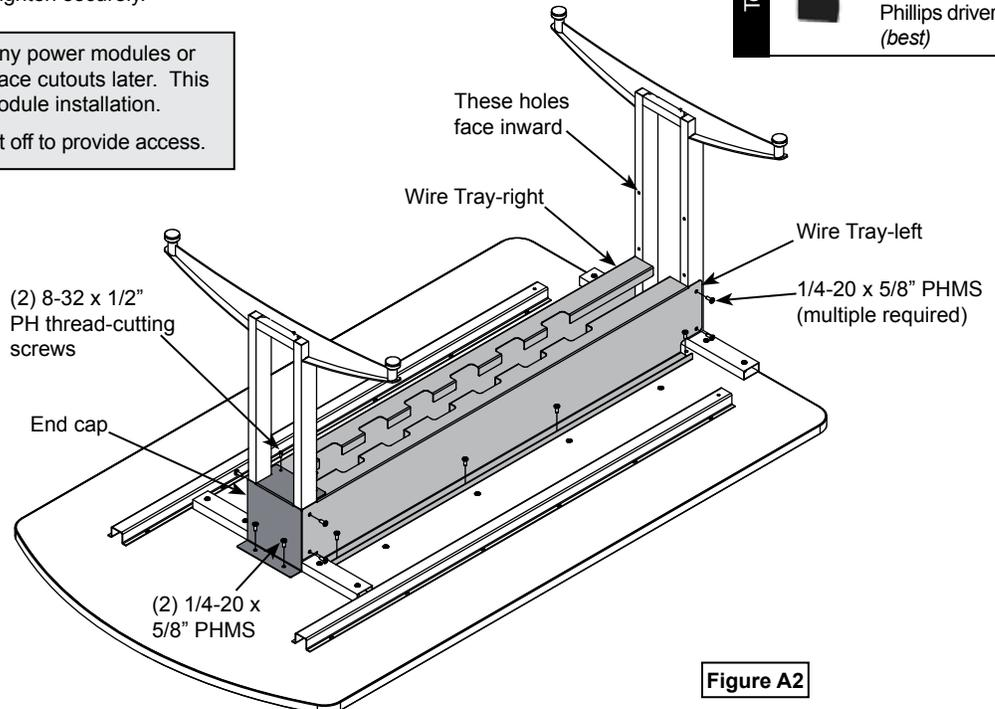
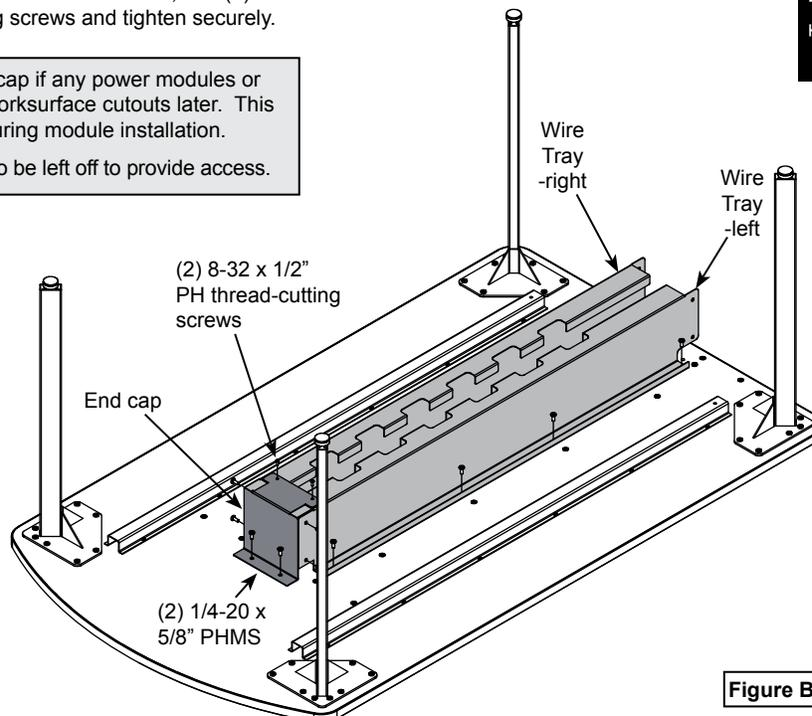

Figure A2
Figure B2
1. Attach the left and right wire tray to the worksurface as shown with 1/4-20 x 5/8" PHM screws. **Figure A2**.
2. Install the end cap with (2) 1/4-20 x 5/8" PHMS, and (2) 8-32 x 1/2" PH thread-cutting screws and tighten securely.
1. Attach the left and right wire tray to the worksurface as shown with 1/4-20 x 5/8" PHM screws. **Figure B2.**
3. If removed, install the end cap with (2) 1/4-20 x 5/8" PHMS, and (2) 8-32 x 1/2" PH thread-cutting screws and tighten securely. **Figure A2, Figure B2.**